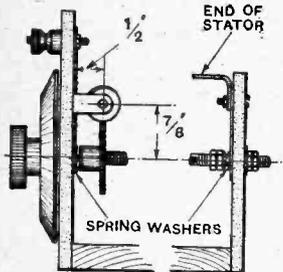

Fig. 5.—Arrangement of the slow motion device which turns the rotor.
Fig. 5.—THE RADIO FREQUENCY EQUIPMENT. (A) Aerial terminal; (B) Counterpoise terminal; (C) Aerial clip; (D) Closed circuit clip; (E) Anode tap; (F) Aerial coil; (G) Closed circuit coil; (H) Grid coil; (I) Oscillating valve filament resistance; (J) H.F. choke; (K) Closed circuit condenser; (L) Milliammeter, 0-100 mA. (Weston or Sifam).
These two pieces are screwed one at each end of the base to take the rotor spindles through the  $\frac{3}{16}$  in. holes. The position of the rotor is adjusted by means of locknuts and spring washers, shown in detail in Fig. 5. The spring washers are on the inside, and make contact with two  $\frac{3}{8}$  in. wide strips of brass. One strip connects with a terminal in the top hole of the longer support, and the other connects with a 4 B.A. bolt to which is attached the top end of the stator coil. The remaining end of the stator is attached
Those who prefer can use one of the geared dials which are now on the market, as the use of some fine turning device is essential. The gearing arrangement adopted for the variometer under description gives a ratio of 50-1, and has been found to be very satisfactory. It is sketched in Fig. 5.